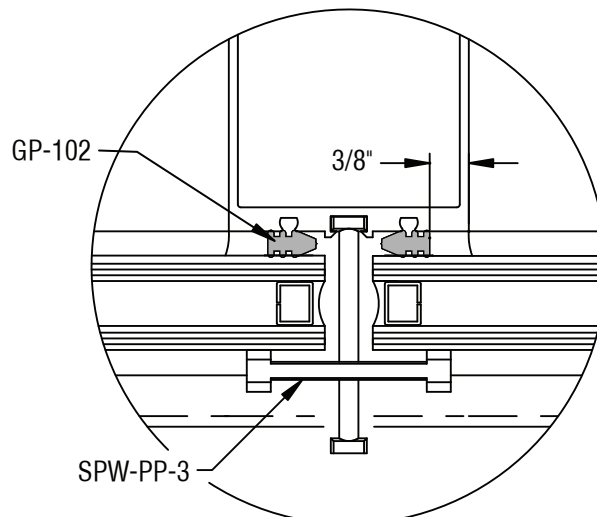
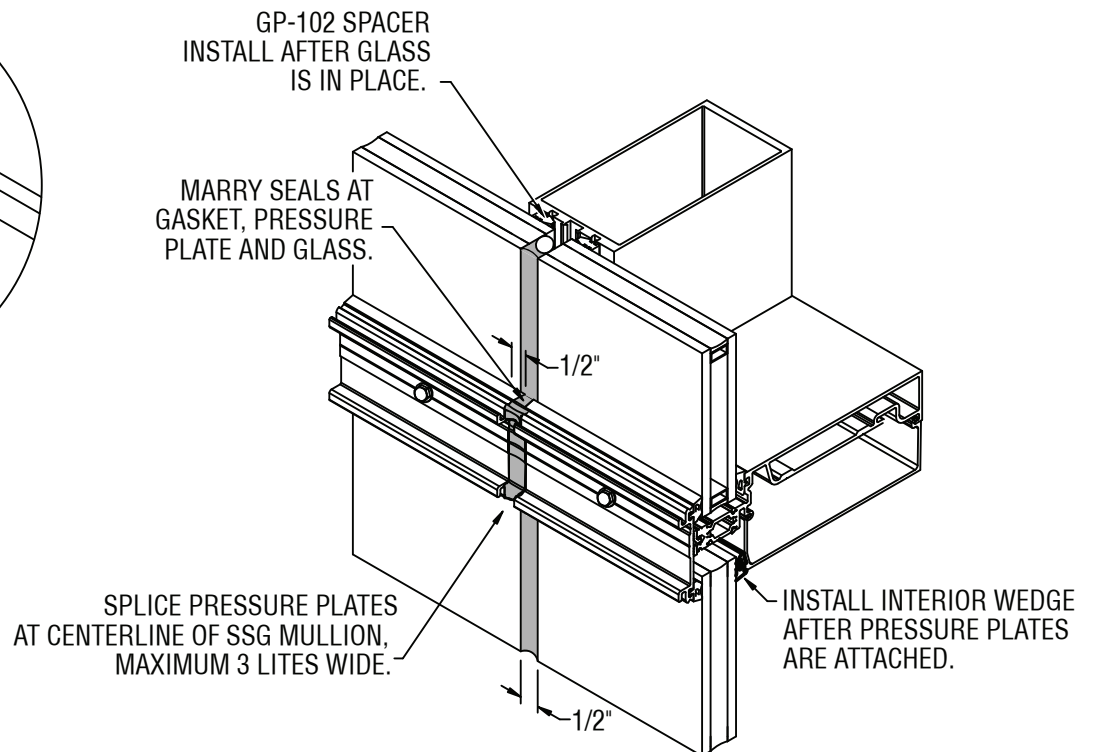

FIGURE 20
FIGURE 25
- 3.14 Once glass is centered into opening, install temporary clips (SPW-PP-3) at 24" o.c. or minimum 3 per lite. Install GP-102 spacer along each side of vertical mullion pushing spacer behind glass to create a sealant joint of minimum 3/8" depth. Spacer should be cut vertical opening plus 1" and placed in opening to extend 1/2" above and below edge of horizontals. This joint should then cleaned using isopropyl alcohol and sealed using an approved structural silicone. **See FIGURE 20.**
- 3.23 After installation of glass is complete, install GP-113 interior wedge around. At SSG verticals install GP-102 spacer along each side of vertical mullion pushing spacer behind glass to create a sealant joint of minimum 3/8" depth. **See FIGURE 20, page 24.** Spacer should be cut D.L.O. plus 1" and placed in opening to extend 1/2" above and below edge of horizontal. This joint should then cleaned using isopropyl alcohol and sealed using a structural silicone. When using pressure plates for SSG system, extend a maximum of 3 bays, leaving a 1/2" joint located at mullion centerline. Insert backer rod between pressure plates and seal. **See FIGURE 25, page 27.**